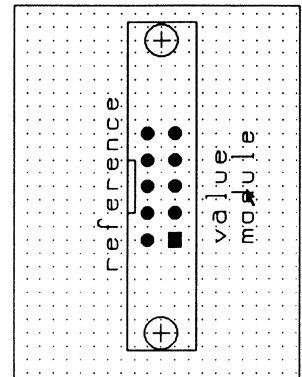

Figure 5-9. The module rotated 90°.
4. Select **OK**. The module displays rotated 90° counterclockwise, as shown in figure 5-9. The module rotates using the pointer position as its pivot point.